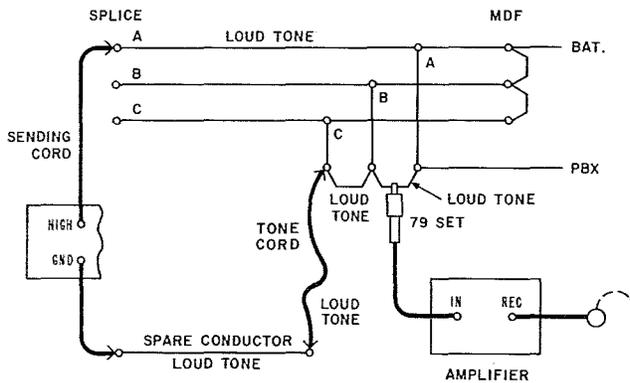
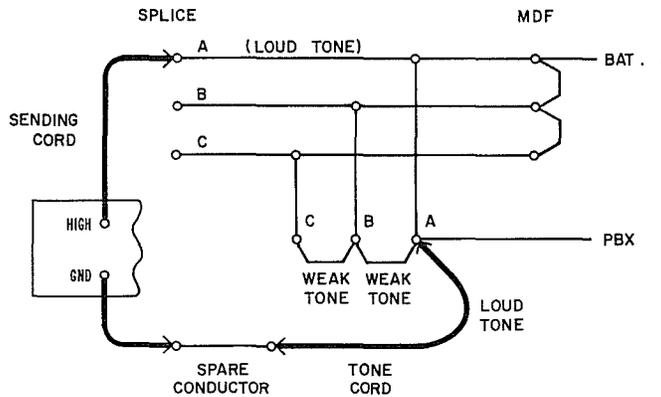

Fig. 15—Identification from PBX Termination Conductor A
Fig. 18—Check on Identification from PBX—Compare Tone Strength
- (c) At the PBX terminal, connect the spare conductor to the last strapped binding post or lug of the battery conductors. Listen carefully with the 79D Test Set over the strap between the posts or lug, (Fig. 15).
- (a) Referring to Fig. 15, if tone is sent on conductor A, the first one in the strap, loud tone should be heard on all the straps to the last conductor, to which the tone cord from the
2.17 The identification can be checked by touching the tone cord to the post or lug that is thought to be the one connected to the conductor on which tone is being sent. If the identification is correct, weak tone should be heard on the strap wires. An example of this is given in Fig. 18 that can be compared with Fig. 15.